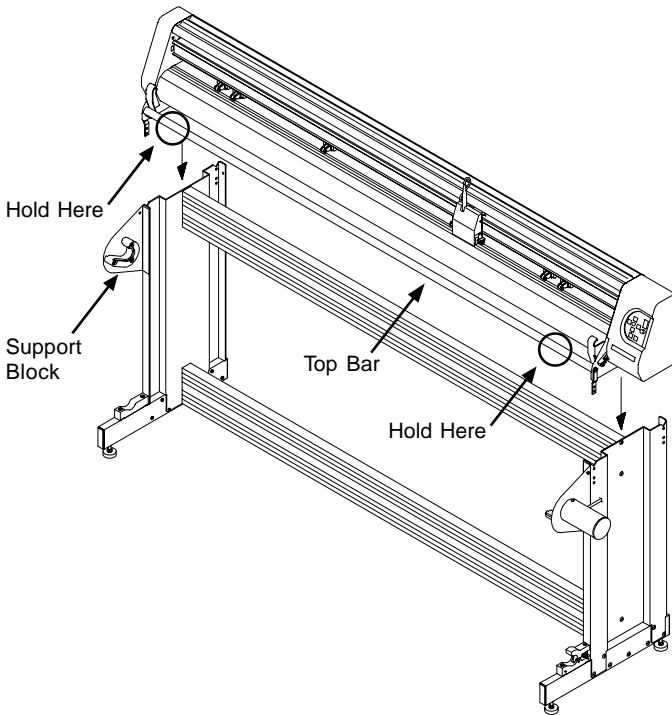
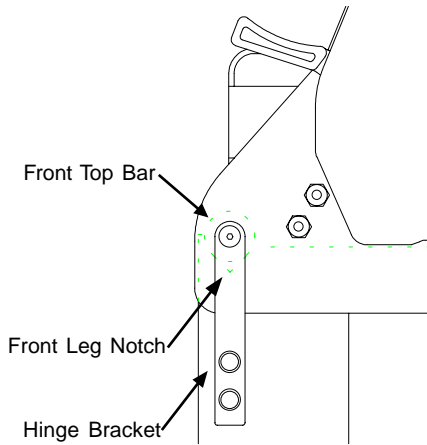
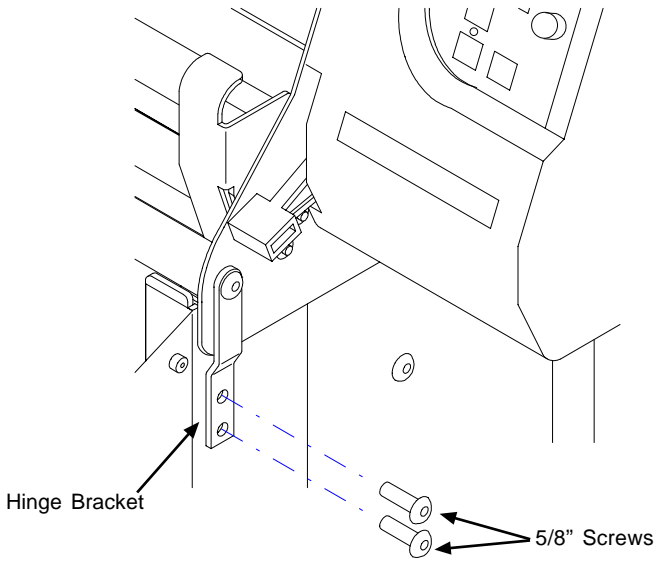

Figure 7. Attaching the plotting head to the stand.
Figure 8. Locating the front top bar in the front leg notch.
Figure 10. Fastening the hinge brackets to the stand.
1. Using two people, lift the plotting head onto the stand. The front (carriage side) of the plotter should be facing the same direction as the support blocks as shown in *Figure 7*. The front top bar should rest in the notch in the front of both legs. See *Figure 8*.
3. Rotate both front hinge brackets so that the holes in the bracket line up with the holes in the leg. If the bracket cannot be aligned with the two threaded holes then check to make sure that the front top bar is in the front notch on both legs. See *Figure 8*. Fasten both brackets to the legs with two 5/8" button-head screws and tighten with the hex wrench. See *Figure 10*.